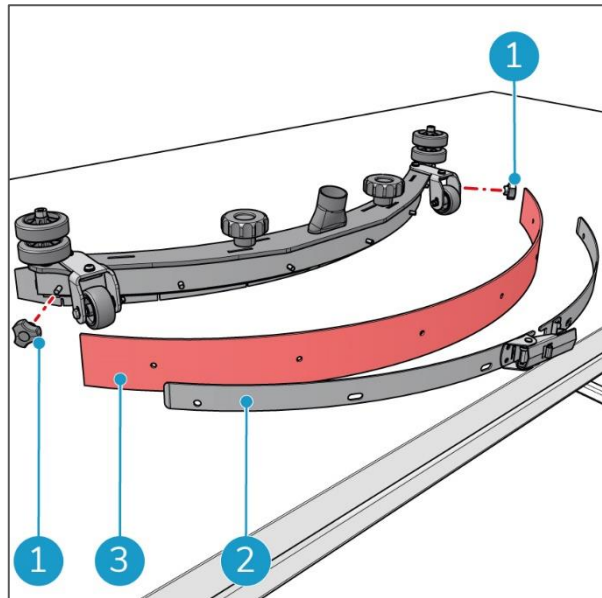

Figure 43
2. Loosen the small rotary knobs at both ends of the squeegee (Figure 43, pos 1).
3. Remove the clamping plate (Figure 43, pos 2) of the back blade.
4. Remove the back blade from the squeegee frame (Figure 43, pos 3).
Placing back the back blade. See Figure 43.